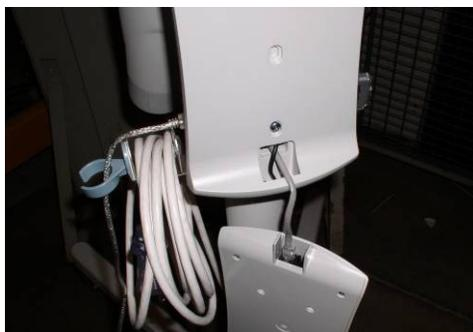

Figure 22
8. Attach the CAT5 cable to the control panel as shown on Figure 22, page 17.